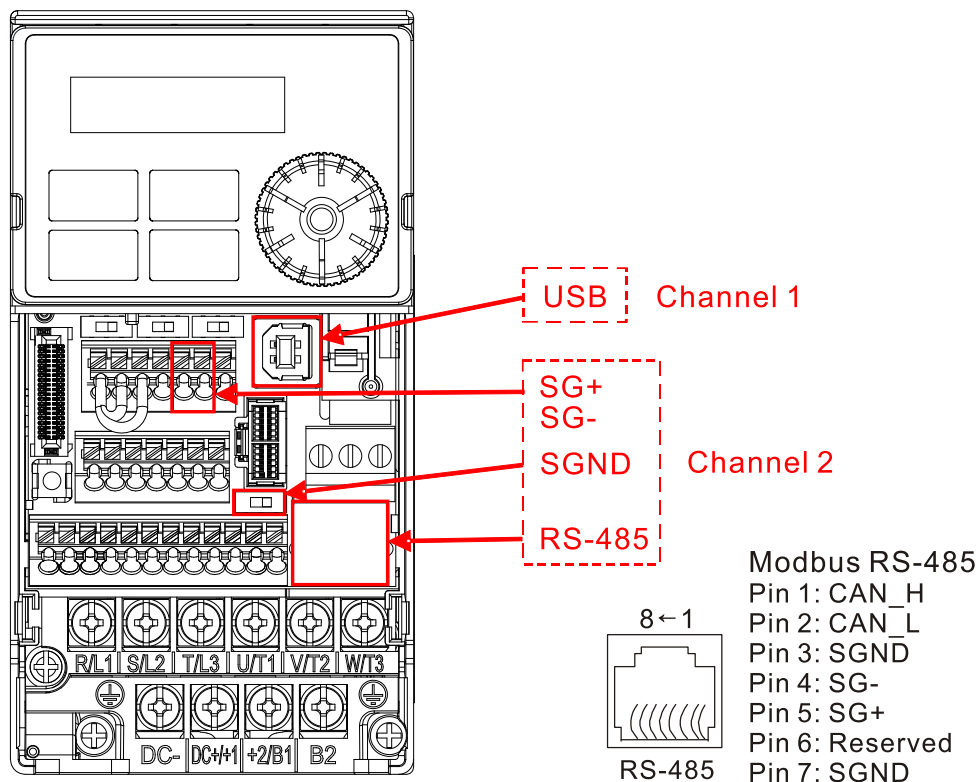

Figure 16-1
1. The MH300 provides two communication serial ports that you can use to download programs to the PLC (see Figure 16-1 below).